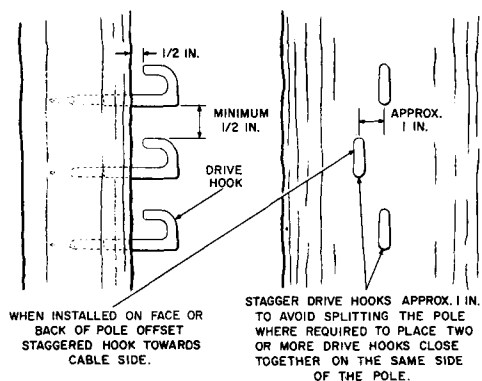

Fig. 1 — Drive Hooks Installed in Pole
2.05 Stagger the hooks as shown in Fig. 1 when placing more than one drive hook on the same side of the pole. Try to obtain greater than the minimum vertical separation between the hooks, particularly for paralleling drop wires.